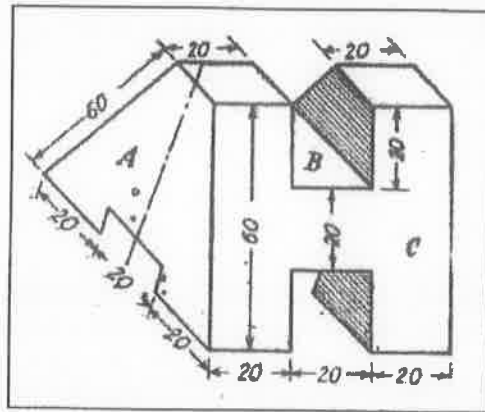

Figure 16 (a) All the given dimensions are in 'mm'
16. (a) A wedge block shown in below figure 16 (a) is being manufactured. Estimate the material weight of the block if the mild steel weighs 7.8 g/cu.cm. Allowance for finishing purposes is 15% of the finishing material.